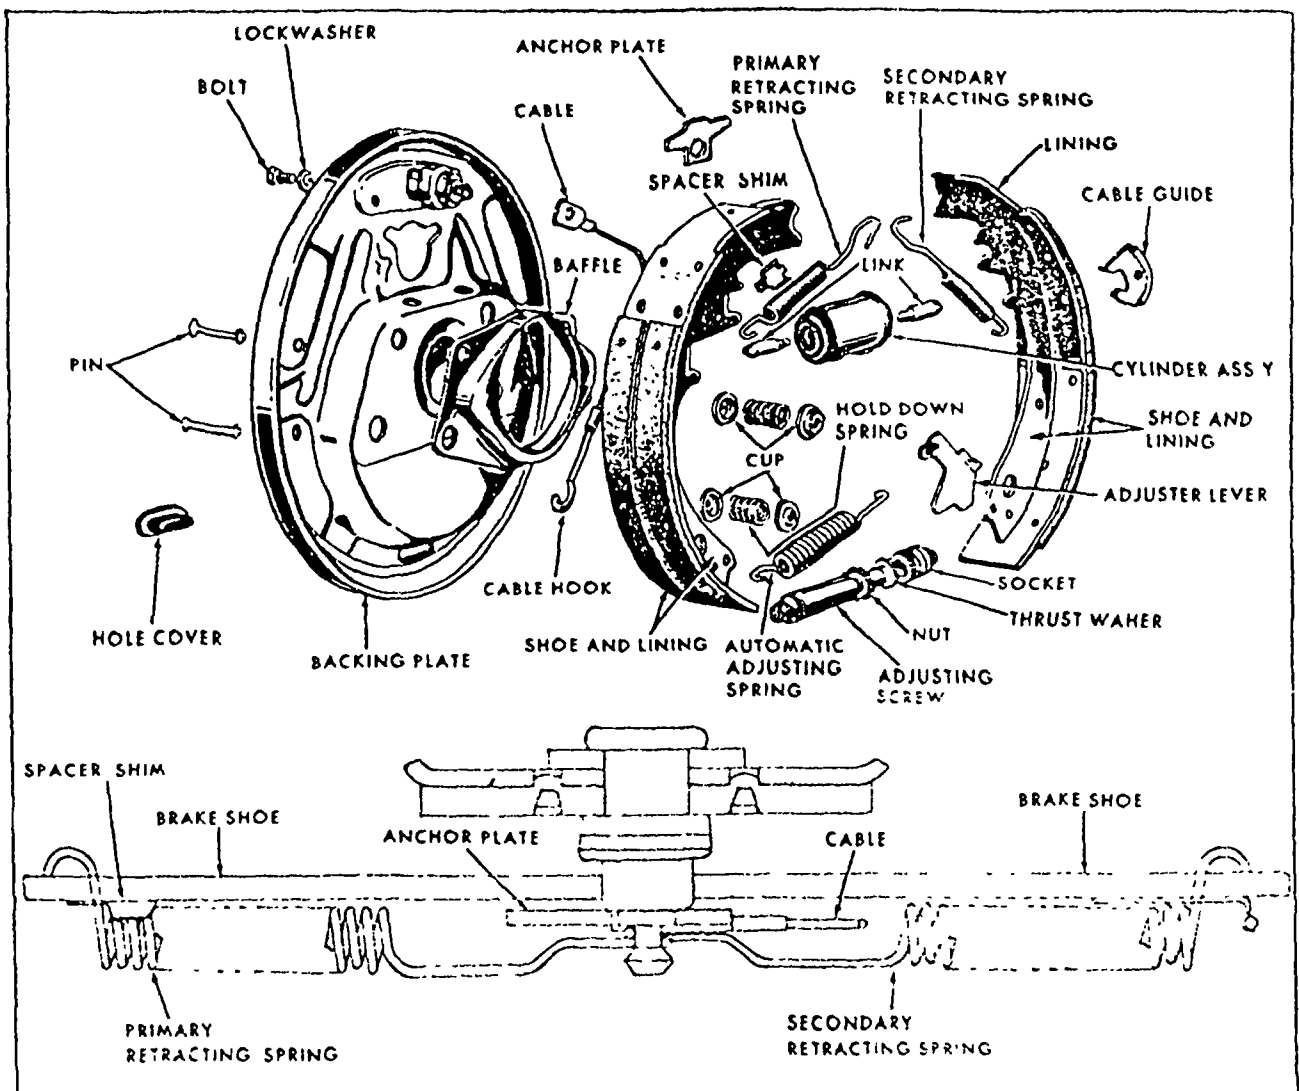

Fig 2-19 Front Wheel Brake Assembly-(61LM-2437)
6. Install the primary shoe to anchor spring and the spacer plate. (Refer to Figure 2-19.) Install the cable guide on the secondary shoe web. Thread the cable around the cable guide groove. It is imperative that the cable be positioned in this groove and not between the guide and the shoe web. Be certain that the cable end is not cocked or binding on the anchor pin when installed and that all parts are flat on the anchor pin.
11. Place the adjuster lever pivot hook in the large hole in the secondary shoe web. (Refer to Figure 2-19.)